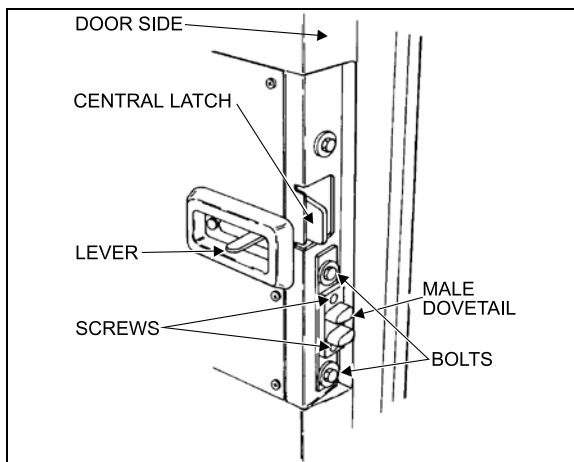

FIGURE 28: DOOR LATCH (COACH) 18059
5. To adjust the male dovetail on L.H. side of the door, remove the two screws and loosen the two bolts. Slide the male dovetail toward the interior and loosely tighten the two bolts. Close the door slowly but firmly, then slowly open it and tighten the two bolts. Attach dovetail to the door with screws. See Figure 28.